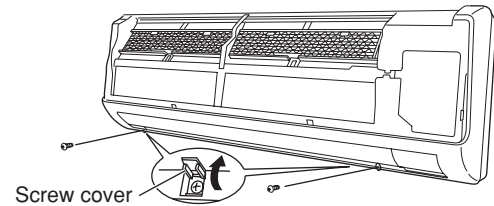

Fig. 16b
- (2) Remove the 2 screws. (Fig. 16b)